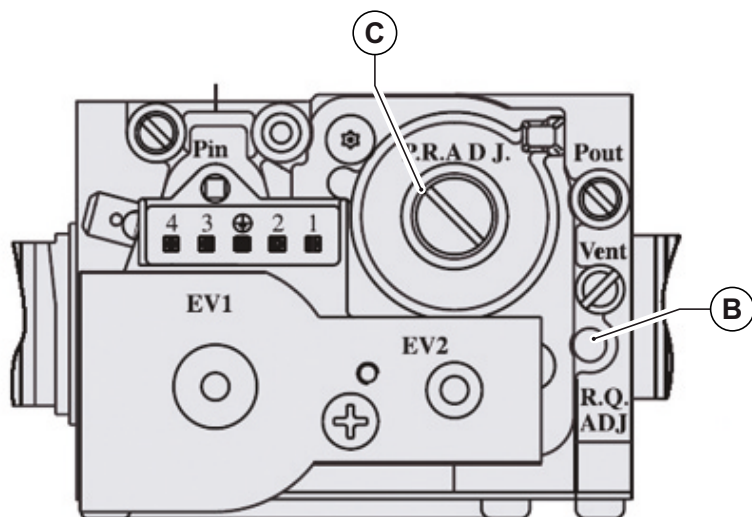

Fig. 38 Adjusting CO2 value
- Set flue gas CO2 content by turning the ratio adjuster **B** (see Fig. 38 Adjusting CO2 value) and ensure that reading falls within the limits of Tab. 25 Flue CO2 content. Let boiler flue cleaning function on and continue with the next point "Minimum heating output adjustment" .
- Set flue gas CO2 content by turning the offset control **C** (see Fig. 38 Adjusting CO2 value) and ensure that reading falls within the limits of Tab. 25 Flue CO2 content.